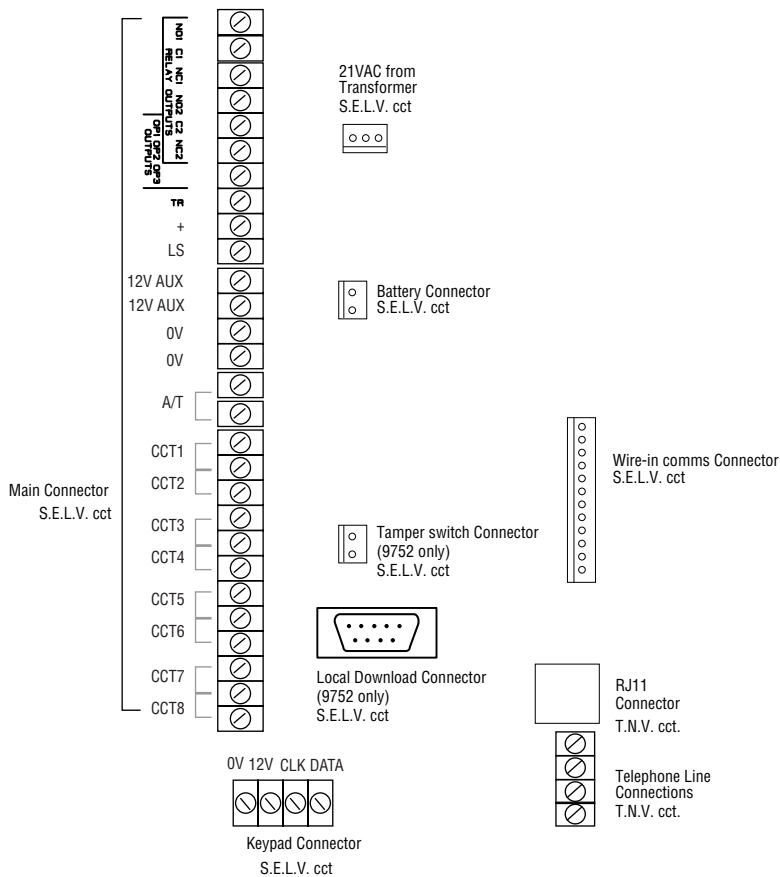

Figure 17. SELV and TNV Connectors on the 9751/2
*Note: The labels "SELV" and "TNV" which are shown in Figure 17 are for reference only and do not appear on the 9751 or 9752 main pcbs.*
If the telephone line is already terminated with a suitable lead and plug then insert the plug into the RJ11 connector (see Figure 17).